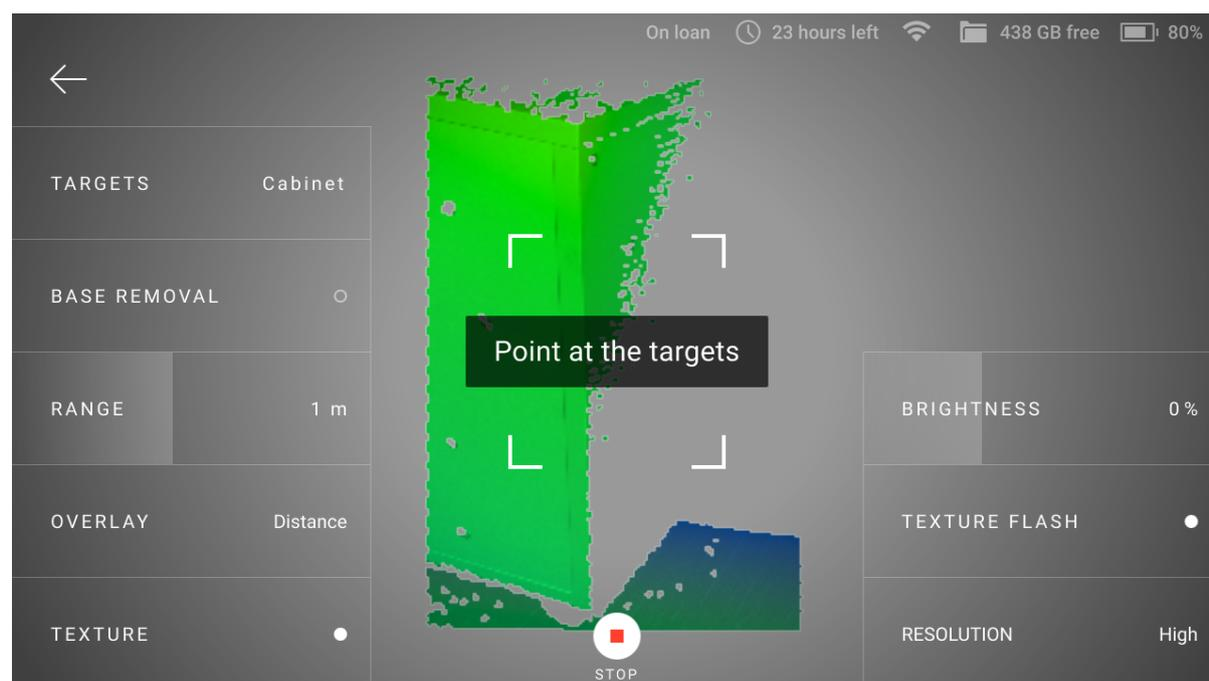

Figure 12: Target-assisted scanning mode is set but Leo does not see targets in its field of view.
1. Until Leo does not see the targets from the selected target file in its field of view, its screen will be like the one presented in Figure 12.